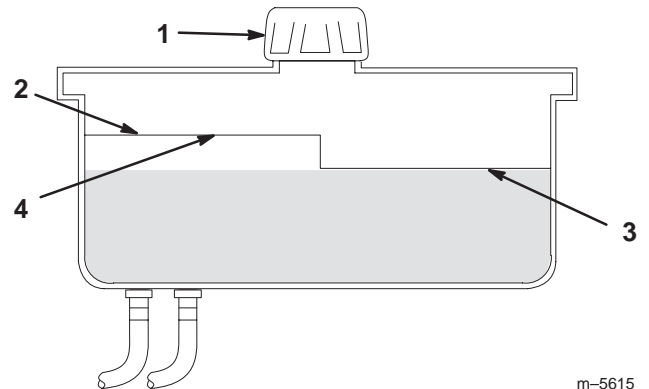

Figure 55
2. Clean area around filler neck of hydraulic tank (Fig. 55).
3. Remove the cap from the filler neck. Look inside to check if there is fluid in the reservoir (Fig. 55).
Note: The fluid level should be to the top of the **hot** level of the baffle, when the fluid is hot (Fig. 55).